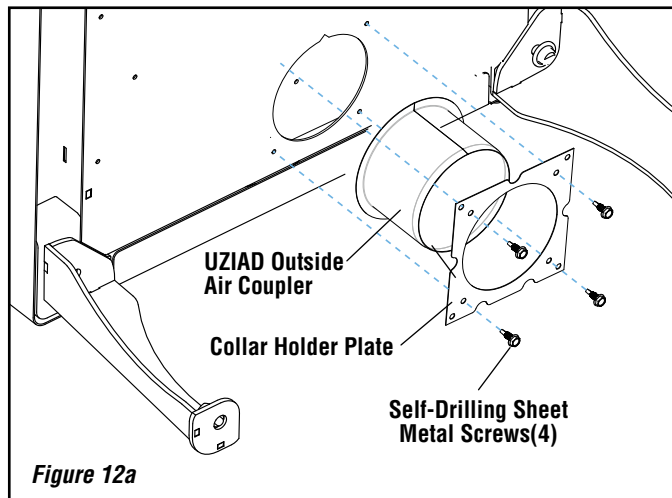

Figure 12a
Collar with Collar Holder: Center the 4" dia. collar on the air intake opening and then secure with the collar holder, using the four (4) 5/8" Tek Screws provided, lining the plate up with the capture holes on the unit. In some instances the capture holes may be absent; the tek screws should then be used to start the holes directly (*Figure 12a*).